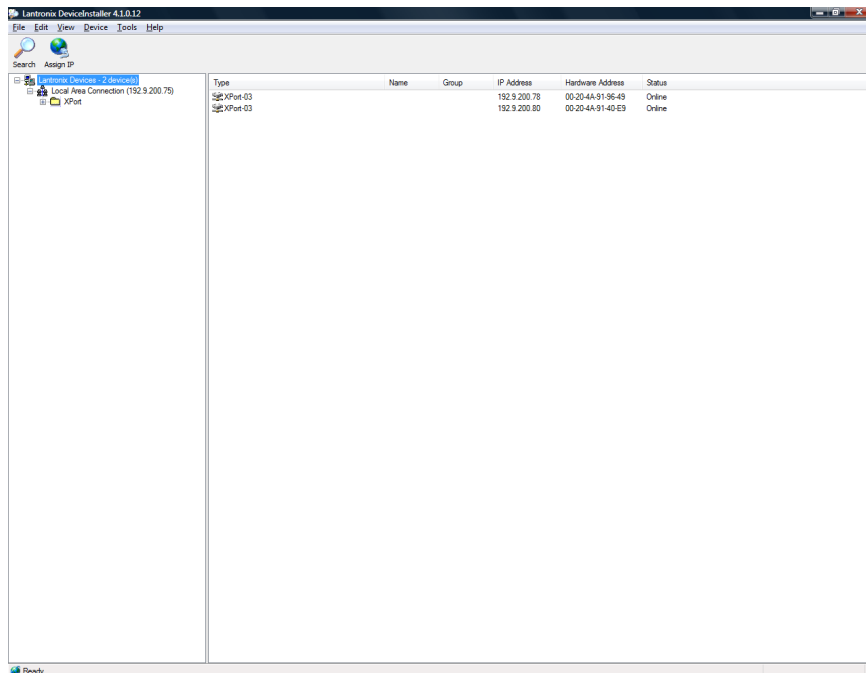

Figure 1
2. Start the program and press the “Search” button in the upper left as shown in figure 1. The software should find the Apprentice II TCP/IP panels devices as shown.